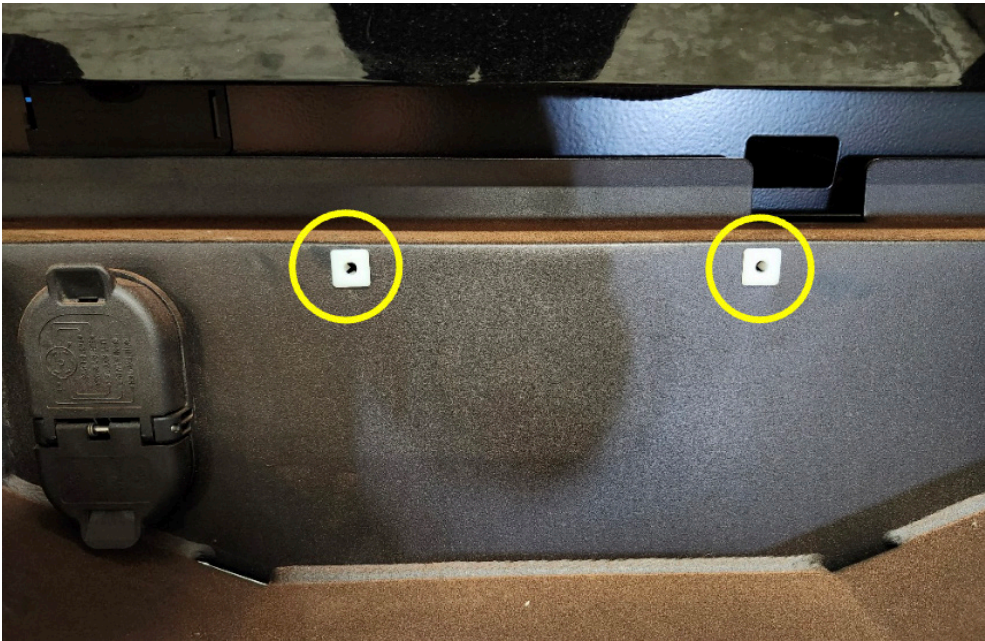

Figure 29
28. Plug in the sensor harness from step 1 and install the two (2) plastic license plate nuts [50494-HW] by pushing them into the bumper. (Figure 29)